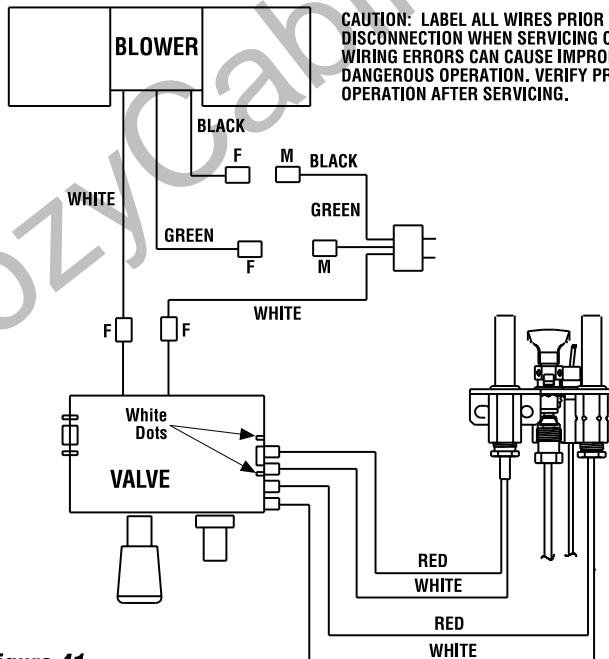

Figure 41
Step 2. Switch the front two thermopile leads with the back two. Be sure the lead is connected to the spade with the white dot next to it (see **Figure 41**). If the Error Code 3 is still showing, replace the thermopiles.